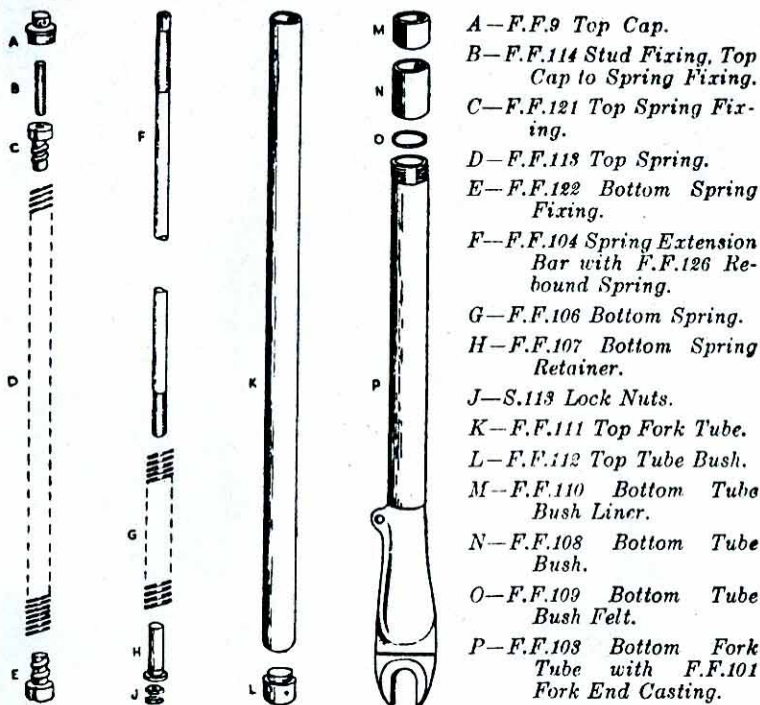

FIG. 7—FRONT FORK LEG COMPONENTS
**LOAD ADJUSTMENT AND DISMANTLING OF LEG.** These forks, of Ambassador design and manufacture, embody a load adjustment, which may be set to individual requirements. Fig. 7 shows quite clearly the component parts and indicates their relative positions. In order to carry out the load adjustment it is necessary to obtain from the Spares Department the special tool, Part No. FF130, price 12/6, and to proceed as follows: